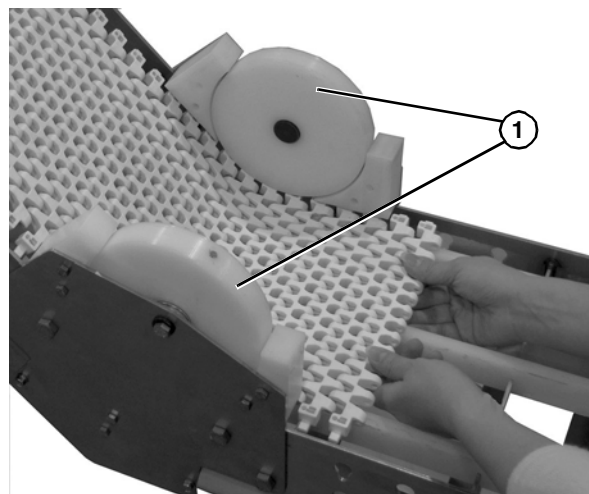

Figure 29
8. For Z-Frame conveyors, guide the belt under the hold down guides (**Figure 29, item 1**) in the lower knuckle.